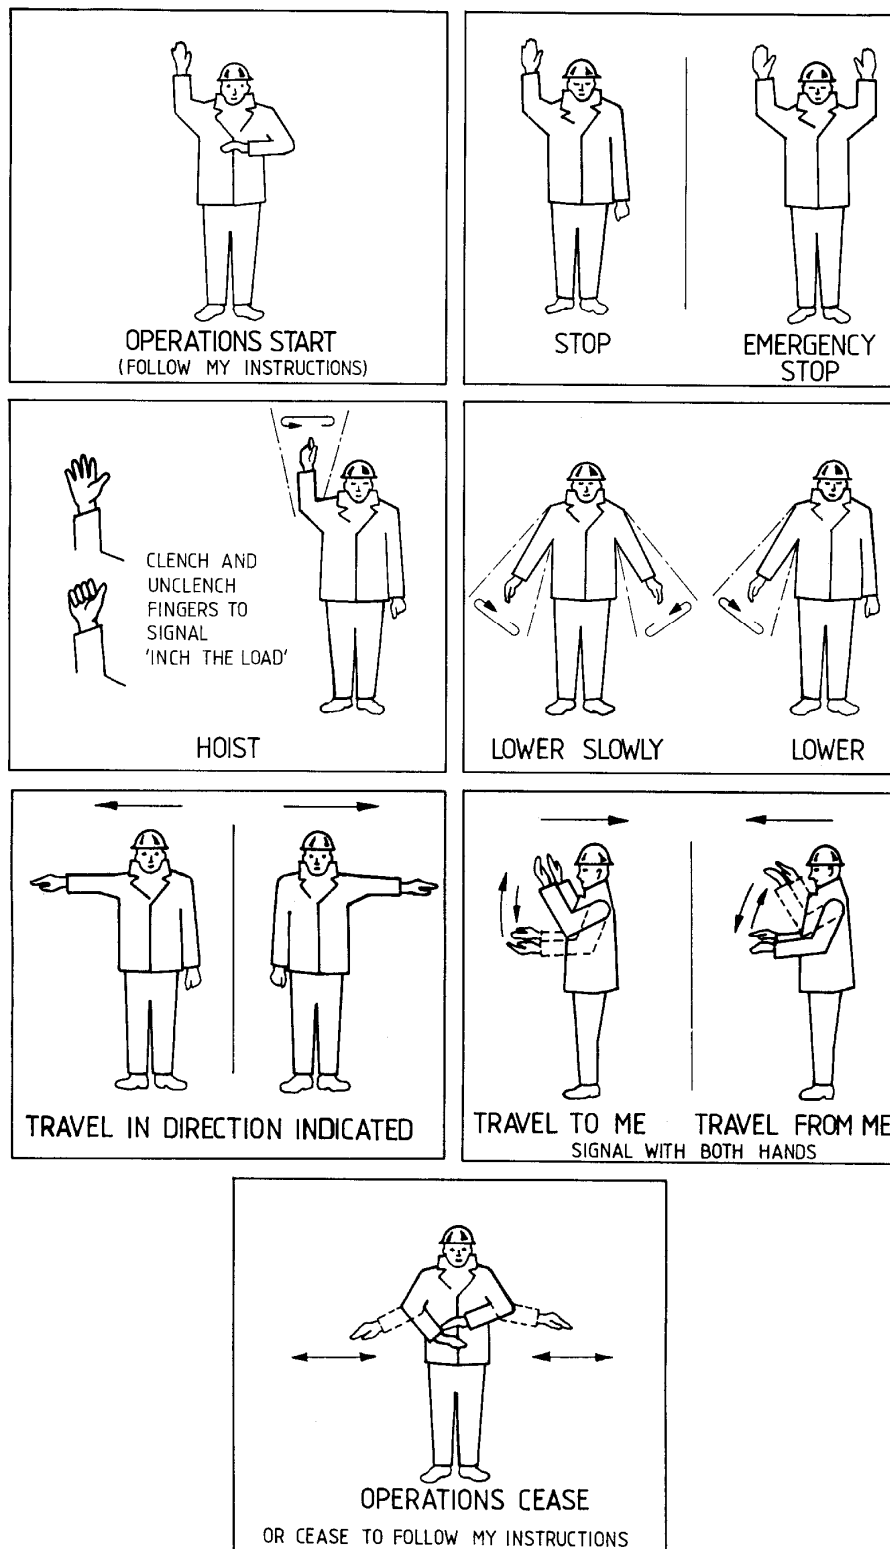

Figure 25 – Recommended Hand Signals
19. Ensure that you can see the hook or load clearly at all times, or are receiving signals from someone who can. Ensure that both parties know the full meaning of the hand signals for operating the crane / hoist. Refer to Figure 25 for recommended hand signals.